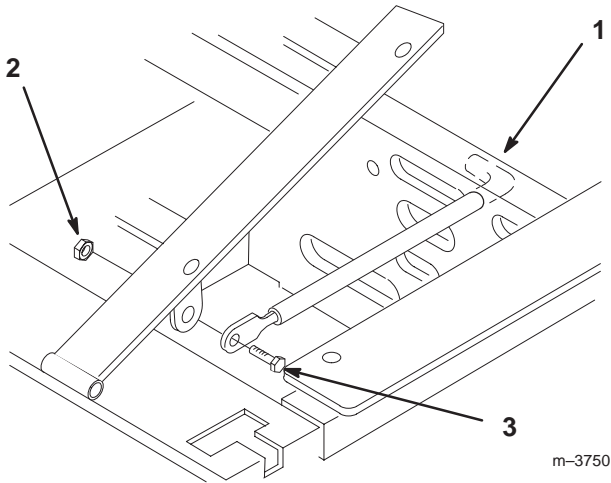

Figure 3
1. Tilt seat up. Remove 5/16" (8mm) locknut from bolt attaching seat retaining rod to seat frame (Fig. 3).
- Remove retaining rod from seat and insert the “L” shaped end of the rod into the hole directly above the left-side hydraulic pump (Fig. 3).
- Place the seat retaining rod to the outside of the mounting tab of the seat frame and secure with 5/16-18 x 1” (26 mm) bolt and 5/16” (8mm) locknut (Fig. 3).